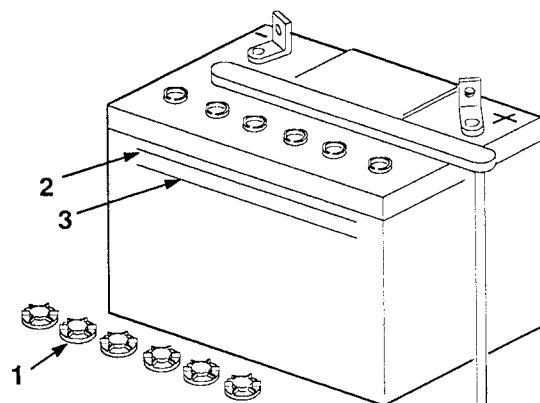

Figure 21
2. Look at the side of the battery. The electrolyte must be up to the “UPPER” line (Fig. 21). Do not allow the electrolyte to get below the “LOWER” line (Fig. 21).
2. Unscrew the filler caps (Fig. 21).
3. Slowly pour distilled water into each battery cell until the level is up to the "UPPER" line (Fig. 21) on the battery case.